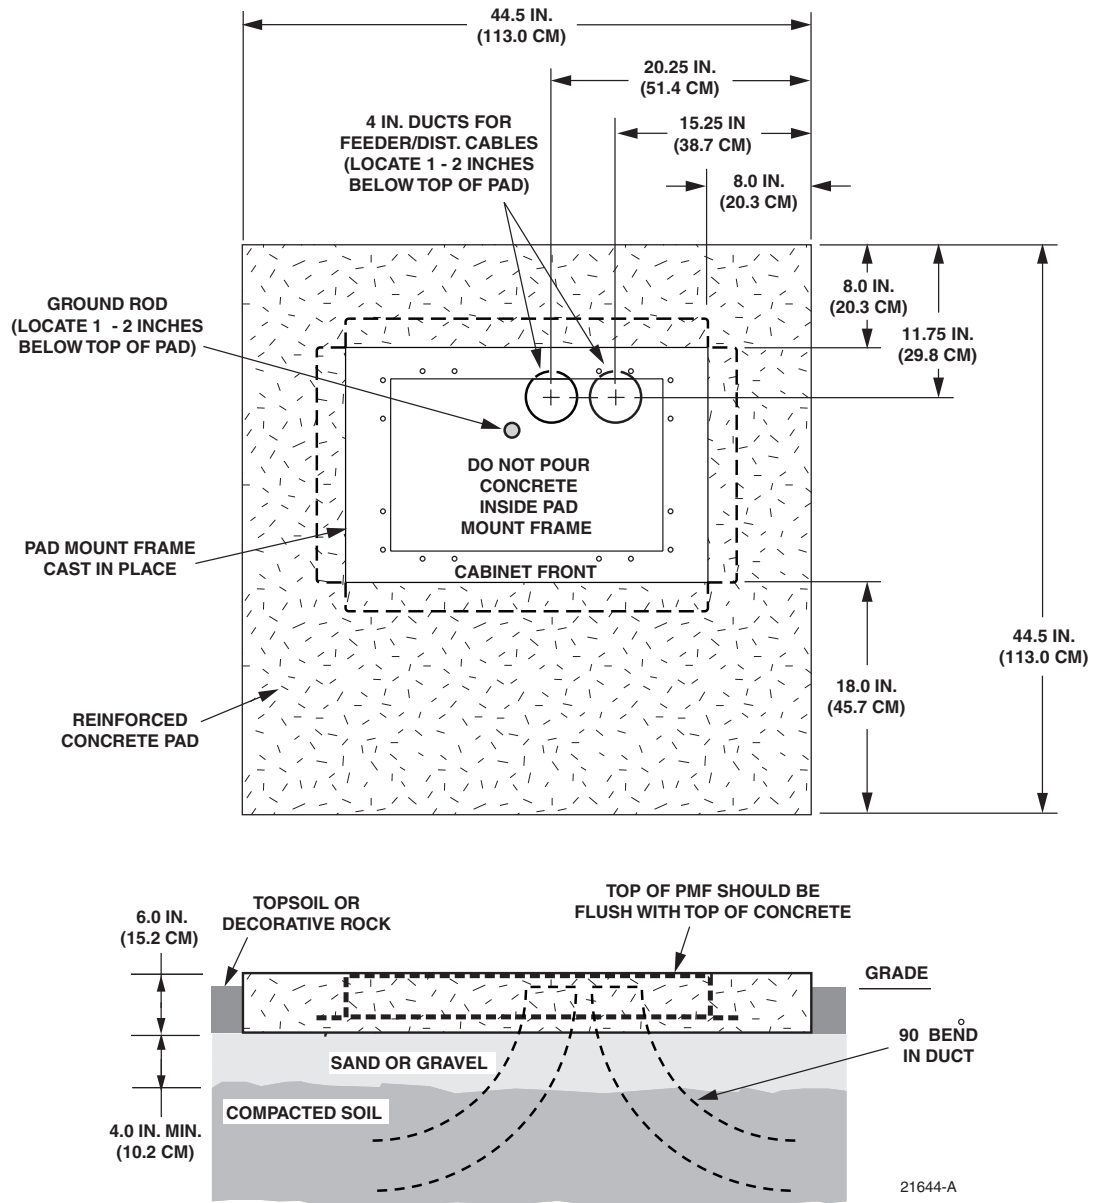

Figure 9. Constructing the Concrete Pad for the FDH 3000 432 Termination Cross-Connect Cabinet
Prepare a base for the concrete pad that meets all local code requirements. The base must have a footing of 4 to 6 inches (10.2 to 15.2 cm) of sand or gravel (per local practice) on firmly compacted soil. Refer to the construction diagram in Figure 9 for details.
2. Locate the PMF as shown in the construction diagram (see Figure 9). When installed, the top surface of the PMF must be flush and level with the top of the concrete pad.
Install a grounding system (not provided) that meets all local electrical codes. Check local codes for grounding system installation, use of clamps, wire size, and any other grounding requirements. Typically, #6 AWG copper wire is used for the ground wire. If the grounding system includes a ground rod, install the rod (see Figure 9) within the PMF opening at the indicated point. When installed, the top of the rod should be located 1 to 2 inches (2.54 to 5.08 cm) **below** the top of the finished concrete pad. Leave sufficient slack in the grounding wire to allow it to be routed into the cabinet after the cabinet is mounted on the pad.